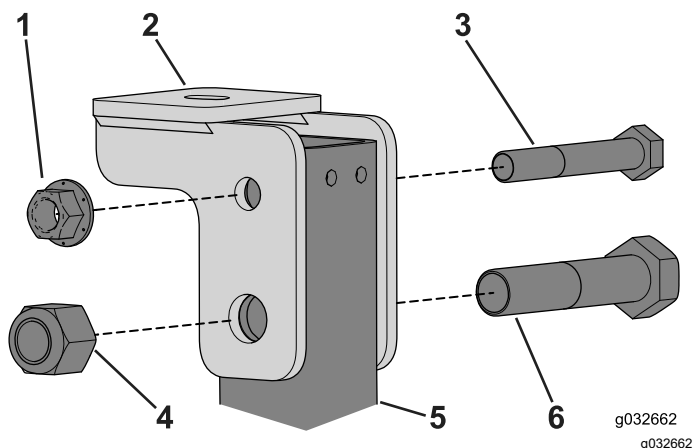

Figure 71
2. Use the bolt (1/2 x 3-1/4 inches) and (3/4 x 3-1/2 inches) to loosely install the cab-mount bracket to each side of the ROPS tube (Figure 71).
6. Tighten the bolts and nuts securing the cab-mount supports to the ROPS posts (Figure 71).